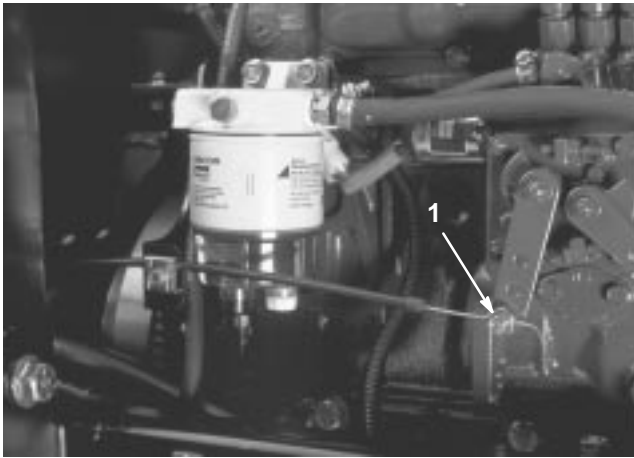

Figure 53
2. Loosen the throttle cable connector on the injection pump lever arm (Fig. 53).